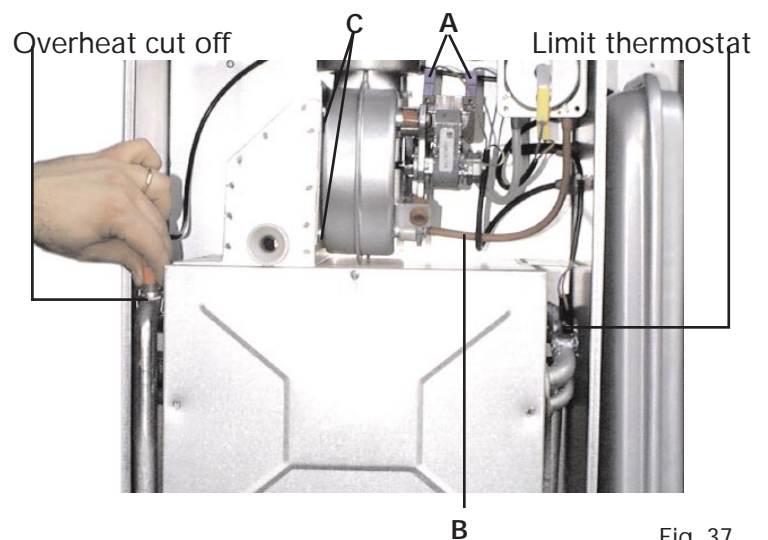

Fig. 37
### 7.10 Removal of fan (fig. 37)
### 7.11 Limit thermostat, or overheat cut off thermostat (fig. 37)
- Identify the location of thermostat from fig. 37